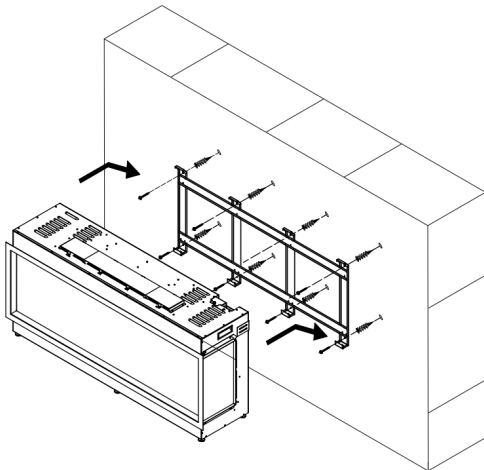

Fig.24
2. Install the wall mounted bracket on the wall and hang the machine inside the wall mounted bracket. **Fig.24**